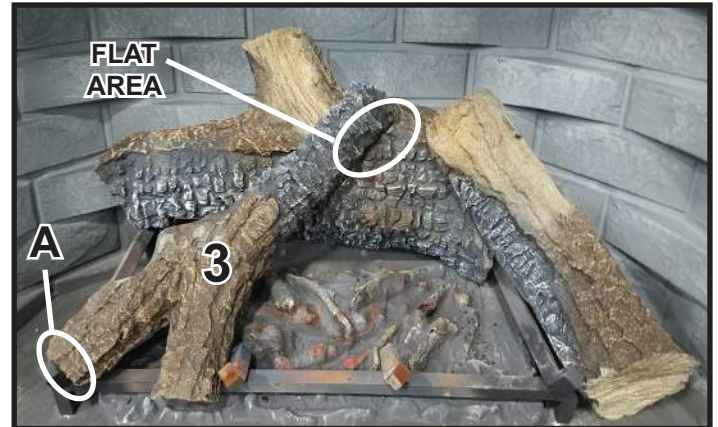

Figure 4
Place the tip of log #3 over the flat area on log #1. Place the left leg of the log on the far left grate tine (A). See Figure 4.